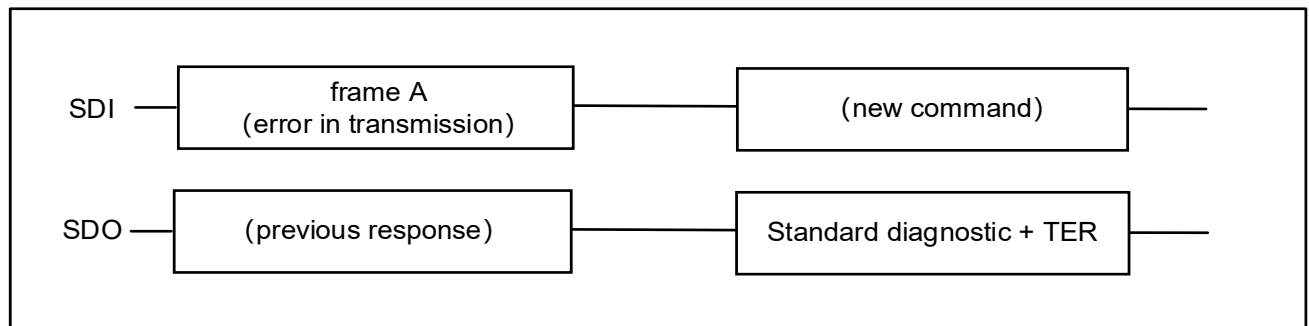

Figure 10.8 NSD56080 response after an error in transmission
- In case an error in transmission happened during the previous frame (for instance, the clock pulses were not multiple of 8 with a minimum of 16 bits), shown in **Figure 10.8**